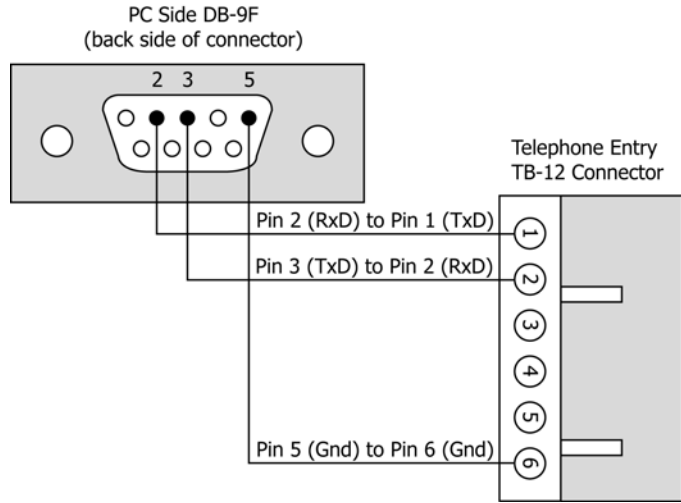

Figure 17: PC/DB-9F to Telephone Entry/TB-12 RS-232 Direct Serial Connections
- If the host computer has a male DB-9 connector on the serial port, you must use a Keri Systems KDP-552 cable or create a cable according to the drawing in Figure 17.